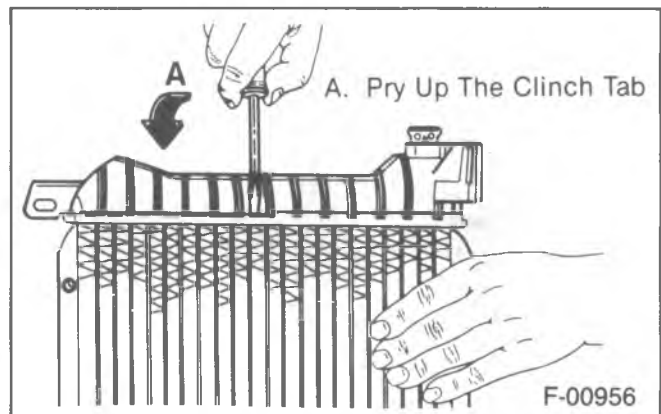

Figure 34—Opening the Clinch Tabs
1. Pry open the clinch tabs, except those under the inlet, outlet, and filler necks, using J-33419-1 or a screwdriver (figure 34). Lift the tabs only enough to allow removal.